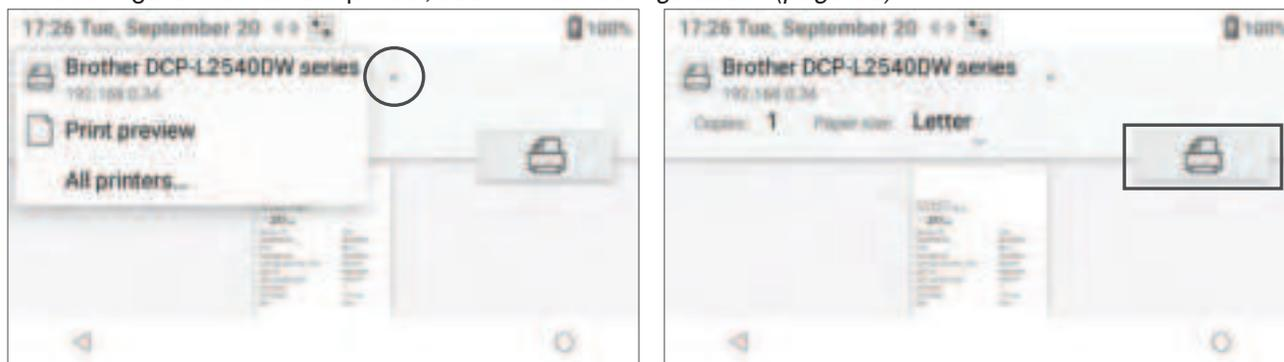

Figure 74: Print LQC Test Result
- **Print the test result** – Select **Result Details** (Result Details) and then select **Print** (Print). Select the desired printer from the drop-down list and then select **Print** (Print) to print the test result (Figure 74). To configure the network printer, see “Printer Configuration” (page 68)